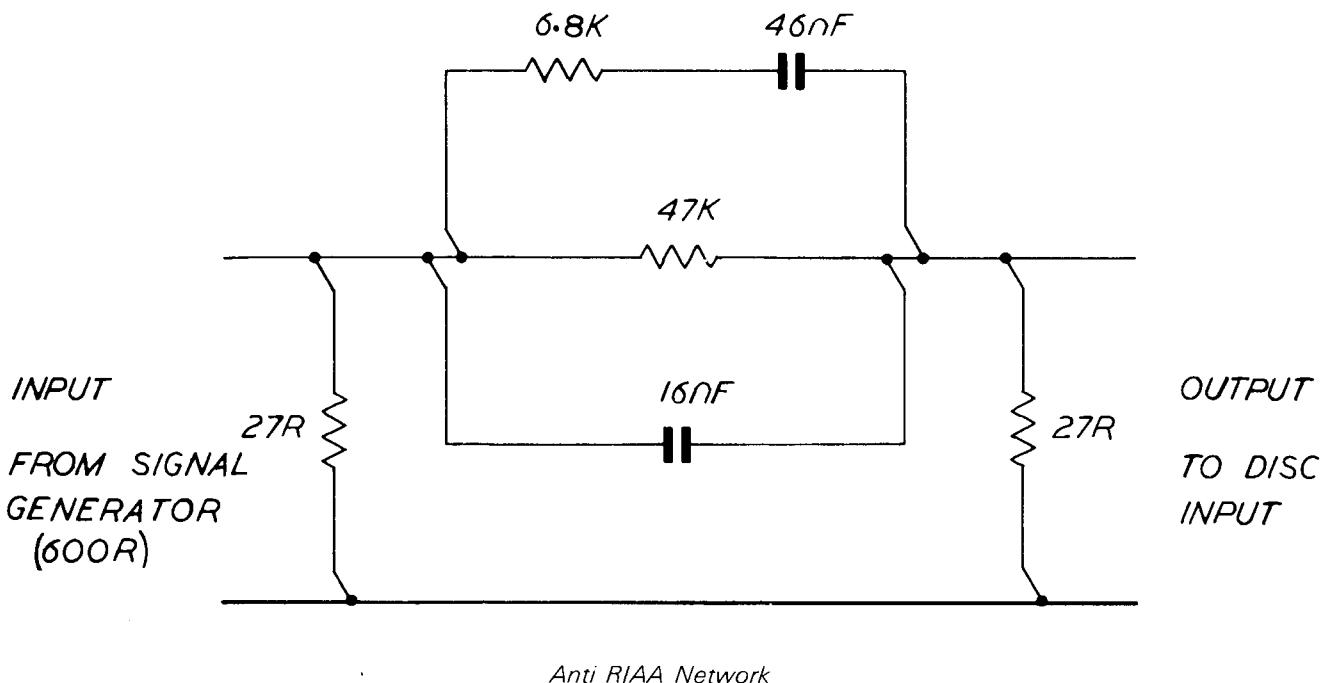

Fig. 5
**Anti RIAA Network as shown in Fig. 5**